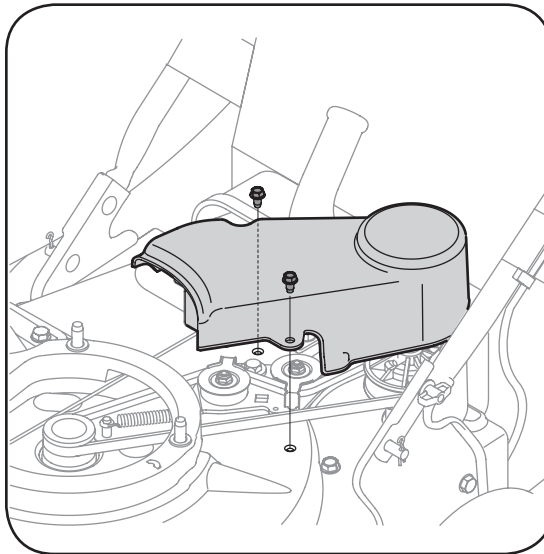

Figure 5-2
4. Remove the three self tapping screws securing the belt cover, and remove belt cover. See Figure 5-2.